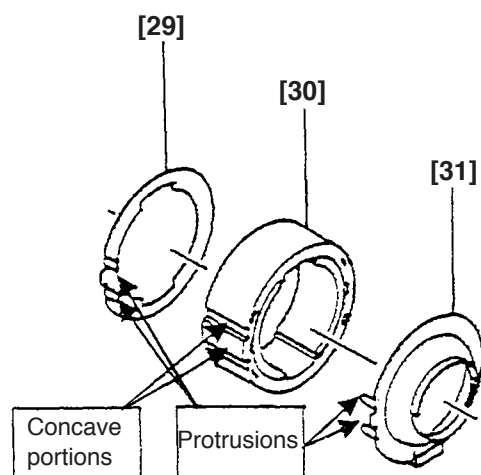
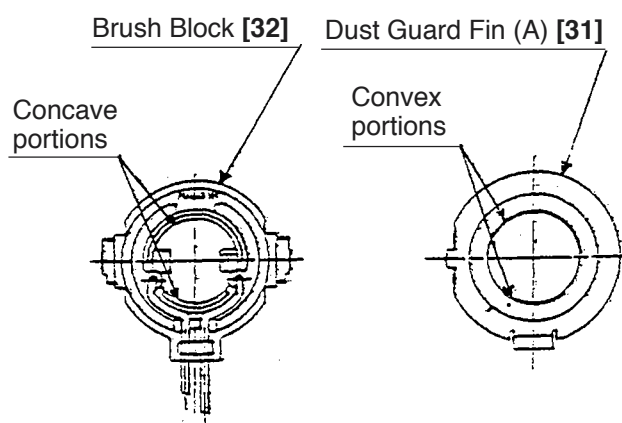

Fig. 8
Fig. 9
- Adjust the protrusions of Dust Guard Fin (A) [31] to the concave portions of Magnet (D) [30] and also adjust the outside diameter of Dust Guard Fin (A) [31] to the outside diameter of Magnet (D) [30] when mounting Dust Guard Fin (A) [31] to Magnet (D) [30] (see Fig. 8).
- Adjust the protrusions of the Side Yoke [29] to the concave portions of Magnet (D) [30] and also adjust the outside diameter of the Side Yoke [29] to the outside diameter of Magnet (D) [30] when mounting the Side Yoke [29] to Magnet (D) [30] (see Fig. 8).
- Insert the two Dampers [26] so that they fit into Inner Cover (A) [27]. Fit the locking ribs of Ring Gear (C) [23] to the concave portions of Dampers [26]. Press-fit the Armature DC 12V [28] into Inner Cover (A) [27].
- Adjust the convex portion of Dust Guard Fin (A) [31] to the concave portion of the Brush Block [32] (see Fig. 9).
- Adjust the concave portions (for locking) of Magnet (D) [30] to the protrusions of housing (A) (see Figs. 8 and 10).